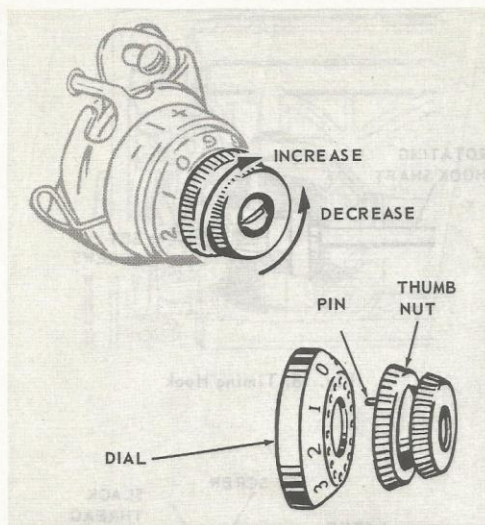

Fig. 21. Adjusting Needle Thread Tension
With machine threaded, lower presser bar to engage tension and turn tension regulator dial to zero (0) position, Fig. 21. Hold thread on both sides of tension regulator and pull back and forth through tension discs. The tension on the thread should be just slightly perceptible, which gradually increases with the turning of the regulator dial to the right.
If the pull on the thread is too strong for minimum tension, press in numbered dial to disengage pin in thumb nut, Fig. 21, from dial. Reset pin in next hole to the left of previous setting. Repeat process until there is no tension on thread. Then advance pin one hole to the right to produce minimum tension at zero (0) position.